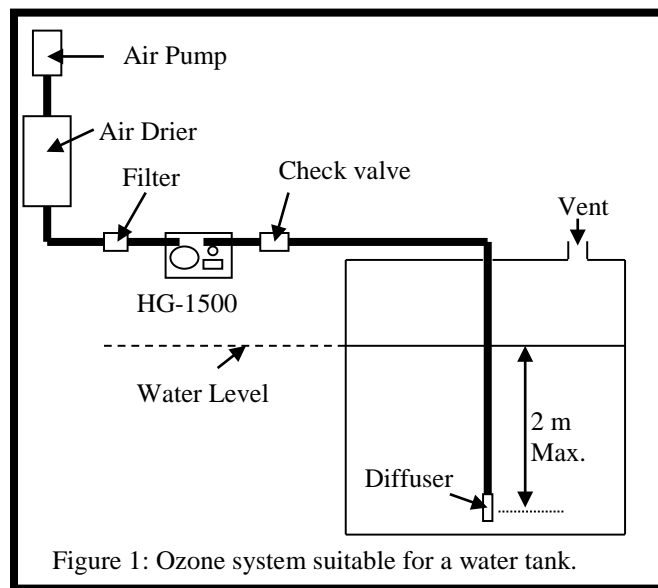

Figure 1: Ozone system suitable for a water tank.
Place the ozone generator close to the point of use, in a clean and dry location free from dew, condensation or high humidity. If applicable, locate your ozone generator well above the waterline to prevent water entering the generator (see figure 1).
- For ozonising water, a typical system would also include a check valve and diffuser, or for pools or spas, a venturi injection point (see figures 1 & 2).
Figure 1 shows a typical configuration for ozonising a water tank. A wall-mounted diaphragm pump supplies air to a self-regenerative drying column to remove moisture from the air. The dry air is then filtered to remove fine particulates before entering the HG-1500. The ozonised air is discharged through a check-valve and diffuser submerged to a maximum depth of 2.0 meters (6.56ft). Check all connections for leaks and make sure that there is sufficient airflow passing through the diffuser before switching on your ozone generator.